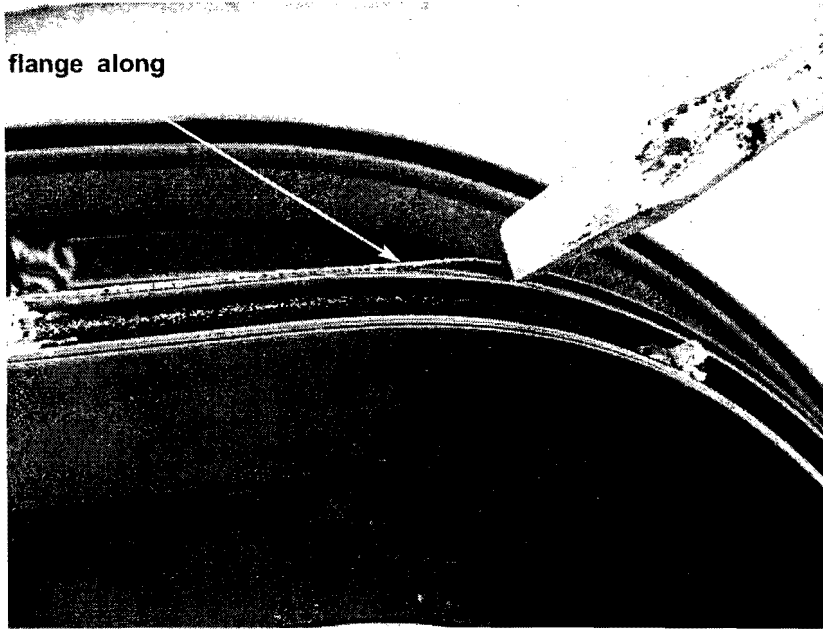

FIGURE 6
4. Correct opening height as required. Grind any interior or exterior side panels the may extend into the opening. **Figure 6**